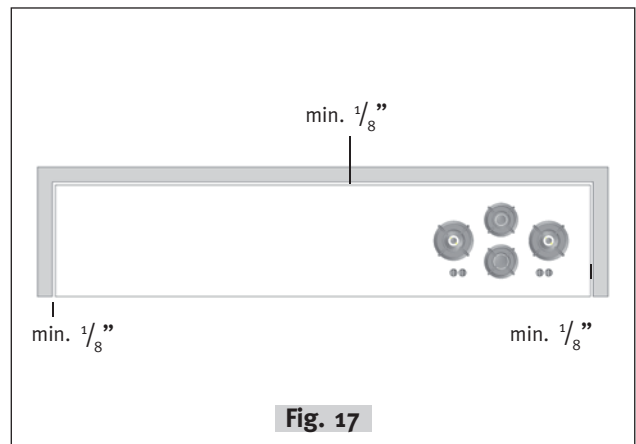

Fig. 17
- 4d. The distance between the kitchen worktop and the wall and/or cabinets should be at least  $\frac{1}{8}$ " (3 mm) (**fig. 17**). This allows the material to expand.